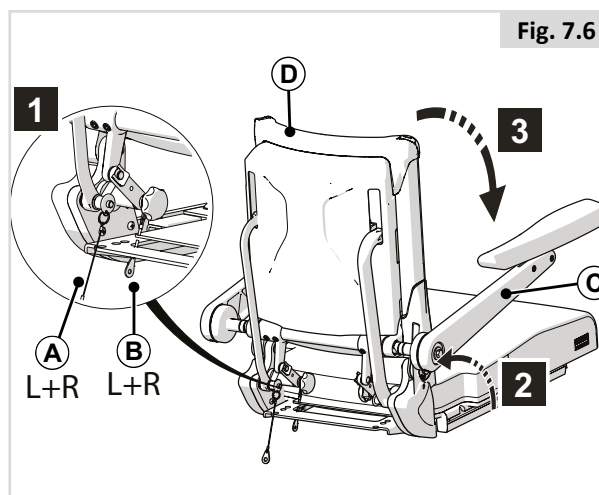

Fig. 7.6
7.5 Folding down reclining backrest with reclining armrests (Fig 7.6)